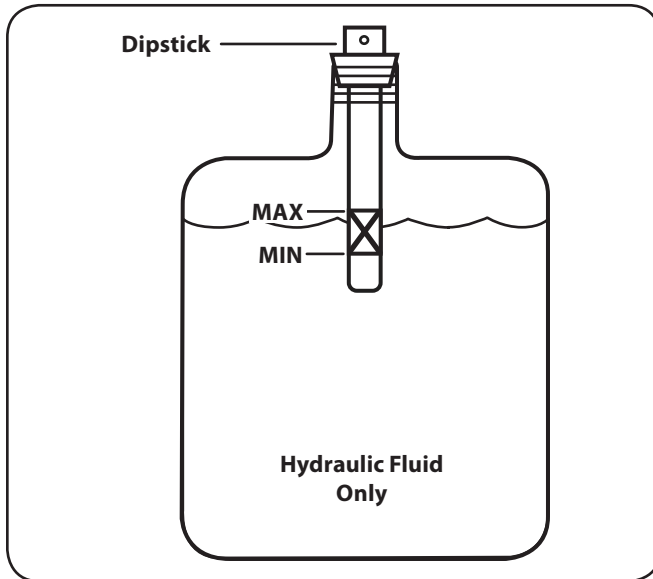

Figure 6-3
- If necessary Refill the reservoir within range marked on the dipstick. See Figure 6-3.